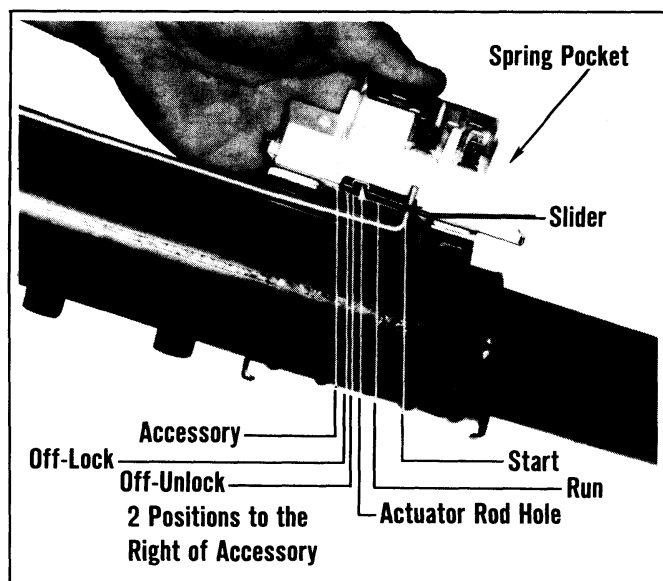

Fig. 3B-72--Positioning Ignition Switch
a. Position the ignition switch as it is shown in Fig. 3B-72.